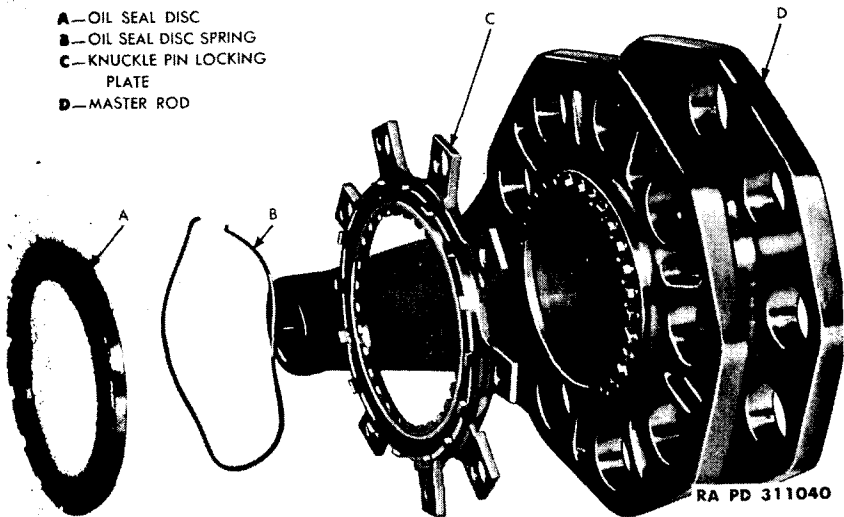

Figure 41 — Master Rod and Seal Assembly
(7) **REMOVE KNUCKLE PIN LOCKING PLATE.** Place master rod and articulated assembly on a bench, rear end down. Bend down knuckle pin lock screw tabs and remove lock screws and tabs. Lift off knuckle pin locking plate (fig. 41).
(e) *Install Master Rod Seal* (fig. 41). Place master rod end seal spring in position in master rod end seal disk, and place disk and spring in position in locking plate, engaging lugs of disk with those of locking plate (fig. 41).